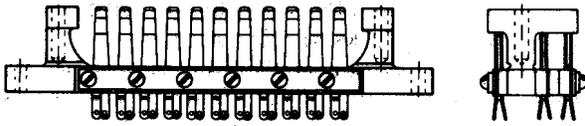

Fig. 8—315 Jack
**2.08 315:** (A & M only.) This apparatus should be ordered only for additions or maintenance of existing equipment arranged for this type of apparatus. This multicontact jack (Fig. 8) is used with the 233 plug. This jack is designed for switching in emergency switching and patching plug and jack equipment in dial offices. The contacts are insulated from each other and are arranged in pairs. The 315 jack is provided with guide holes arranged to engage with guide posts of associated plugs for centering contacts of plugs and jacks. This jack has 33 pairs of contact springs.